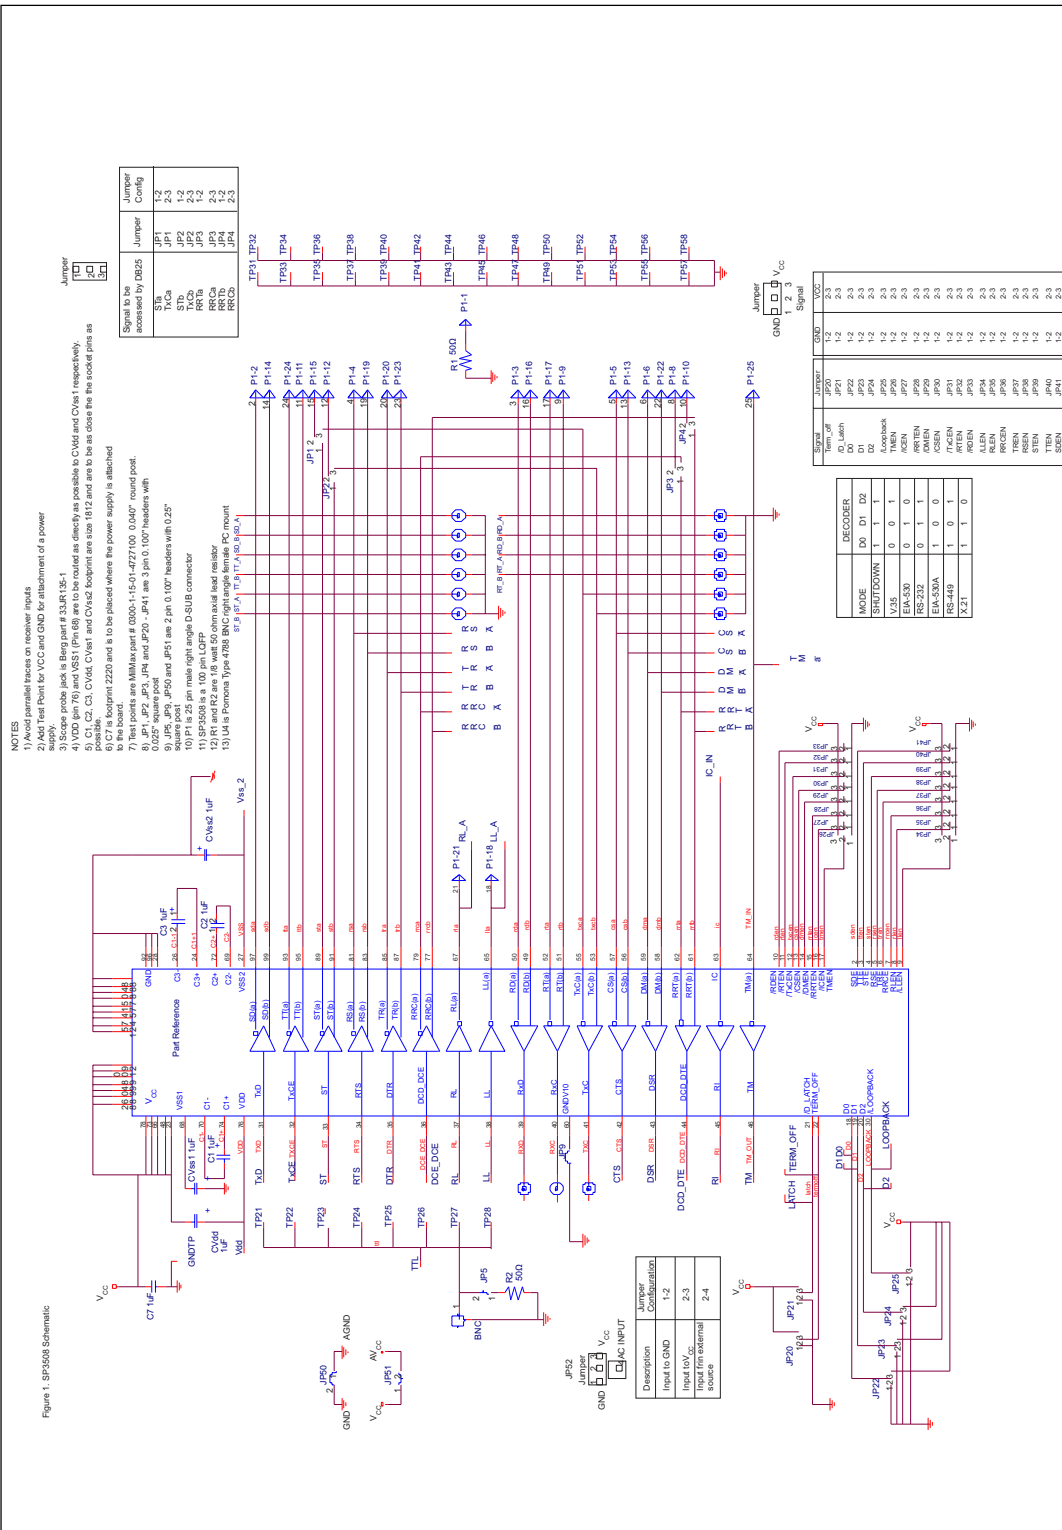

Figure 1
2. Figure 1 is a schematic of the evaluation board. The schematic shows the location of the driver and receiver access points as well as the Jumpers,  $V_{CC}$ , GND and the DB-25 Connector.